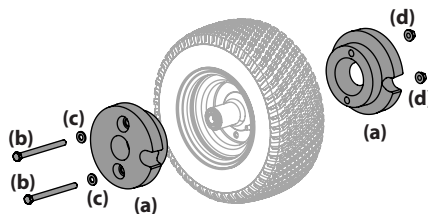

Figure 4-17
2. Remove the two 25-lb weights (a) on each tire by removing the two hex screws (b), flat washers (c) and flange lock nuts (d) that secure them to the rims. See Figure 4-17.